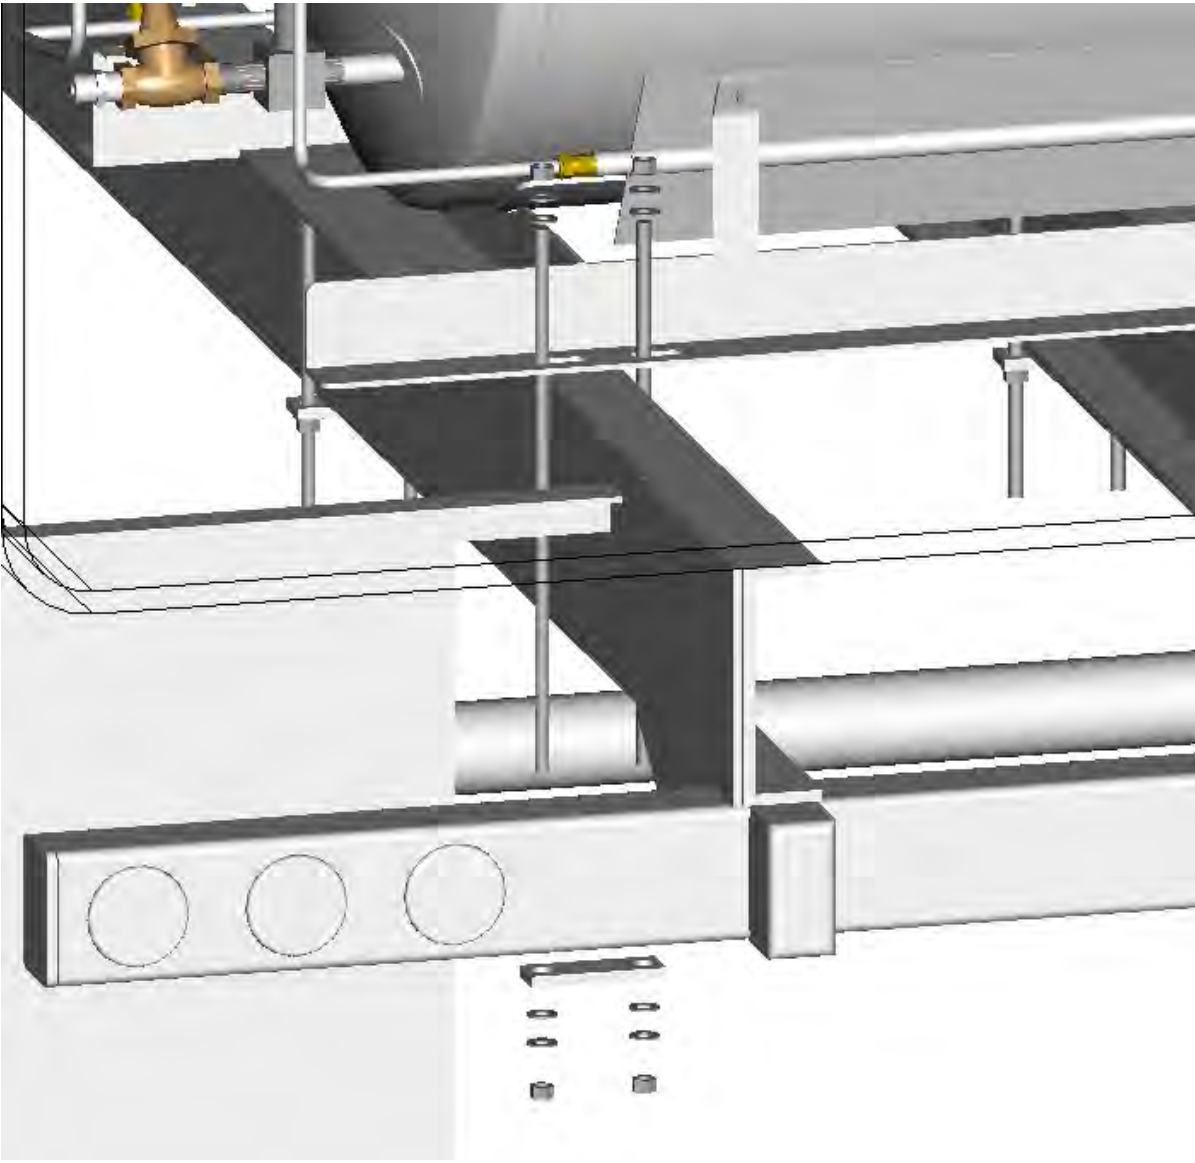

Figure 3.2
**CAUTION:** The mounting must be made through floor bed and around the truck frame as shown in Figure 3.2. Failure to do so could result in personal injury and/or damage to the tank in the event of collision or fast stop.
5. Assemble a nut, lock washer, and flat washer to one end of each piece of threaded rod (eight required) as shown in Figure 3.2.